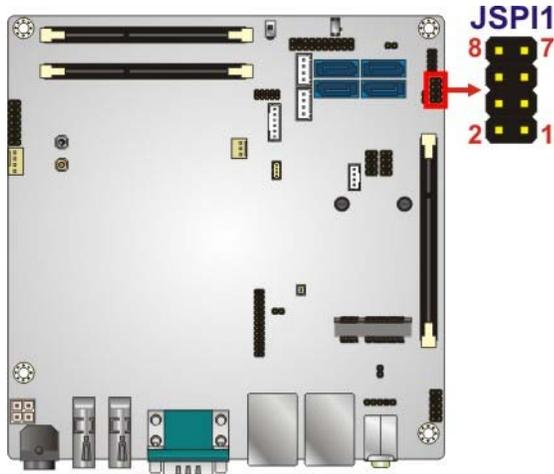

Figure 3-30: SPI Flash Connector Location
- CN Location:** See Figure 3-30